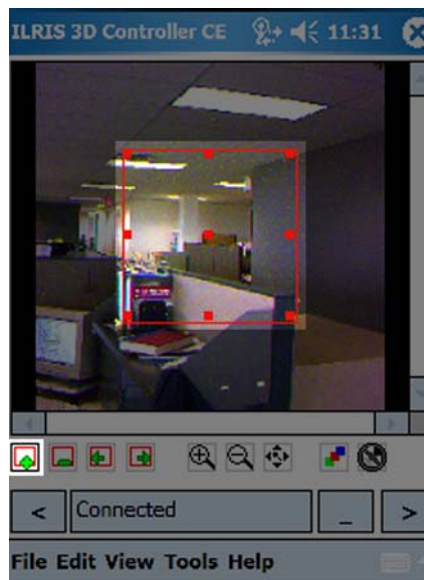

Figure 48: ROI box, showing capture nodes
2. Tap the **Add Box** button to add an ROI box (Figure 48). The ROI defines ILRIS-3D's field of view (FOV).